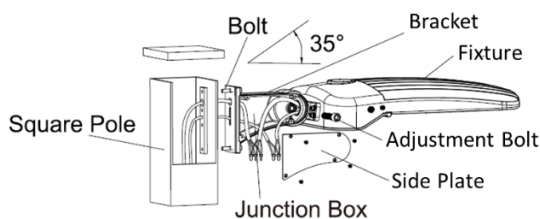

Figure 7
- e. Make all wiring connections via the supplied wire leads in accordance with NEC and local codes and pull the wires completely into bracket's junction box and making appropriate electrical connections. (Figure 7).
5. The pole mounting bracket allows the luminaire to be adjusted up to 35° above horizontal (Figure 7). Loosen the adjustment bolt and adjust tilt as needed and tighten adjustment bolt to lock in place.
6. The wall mounting bracket allows the luminaire to be adjusted up to 90° above horizontal (Figure 7). Loosen the adjustment bolt and adjust tilt as needed and tighten adjustment bolt to lock in place.